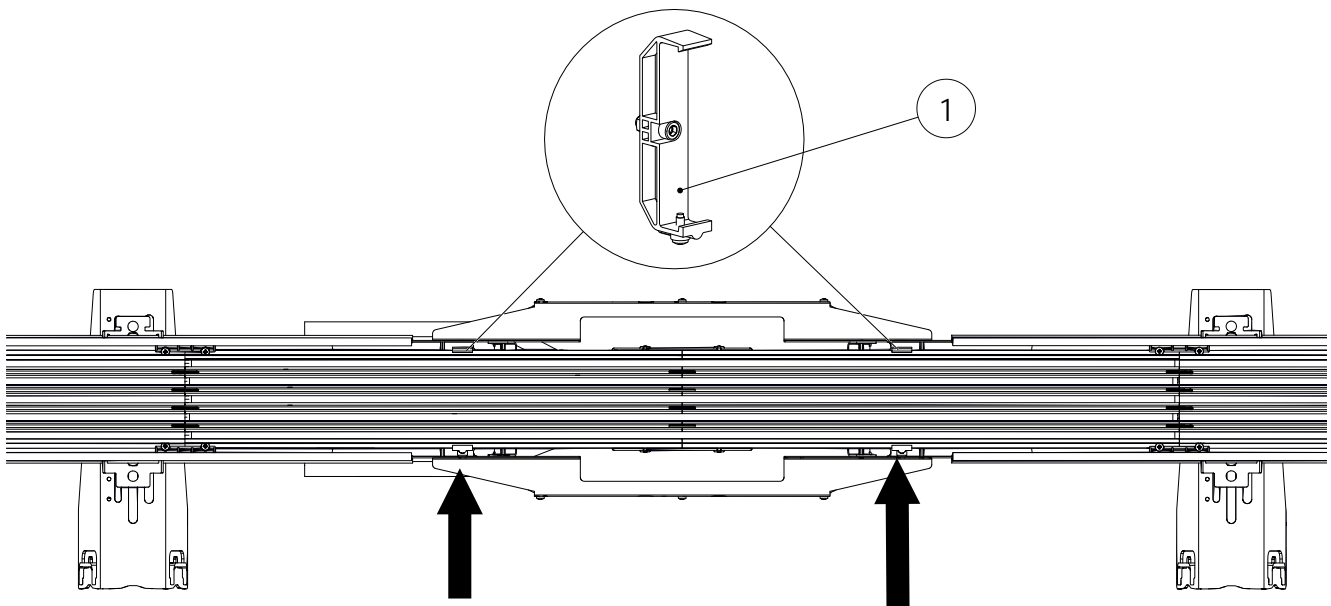

Fig. 80: Position of anchor point
- Install the second anchor point (1) in the same way (see Fig. 80).